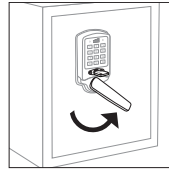
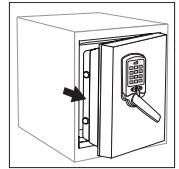

Figure 4
Figure 5
4. Turn the door handle upwards counterclockwise and pull the safe door open (Figure 4 & Figure 5).